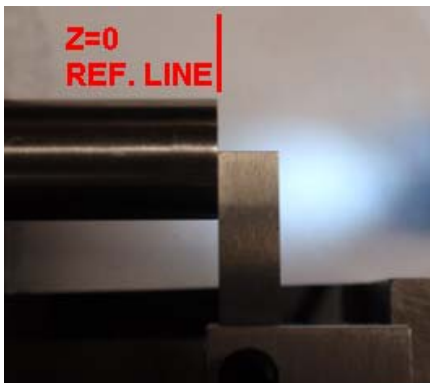

FIGURE 4.1.3
The master tool is aligned such that it is flush with the face of the reference, thus the tool holder and post are now perpendicular to the X axis and the tool edge is at Z=0 reference in Figure 4.1.3. The tool is then aligned to the OD of the reference, thus the master tool is at a known reference location X =0 as shown in Figure 4.1.4.
1. The stock is placed in the chuck. The master tool is aligned to the stock such that the edge is placed at the face and center of the stock. (same as previously shown in Figure 4.1.3 and repeated here)